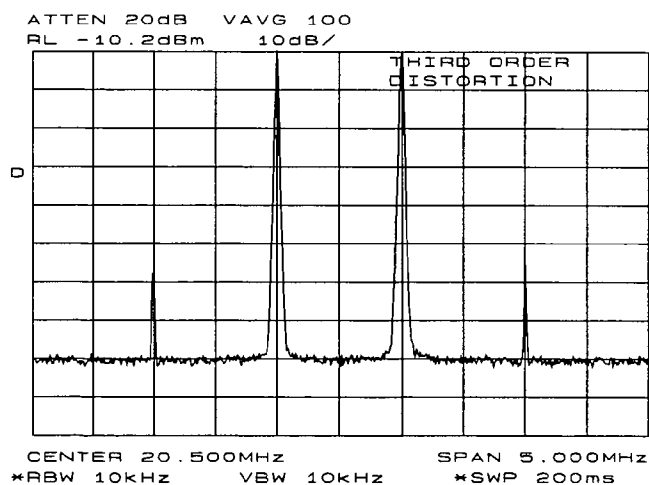

Figure 3-11. Display with Title
- You may want to store the measurement information for future use. The save and recall functions allow you to store data for later viewing. The screen title function allows you to create a title on the screen and a label for the recall menu. To create a title, press **DISPLAY** and then **SCREEN TITLE**. Next, use the softkeys from the screen-title menu and the knob (to choose the letters) to create a title. The title appears in the upper-right corner of the graticule and can be up to two rows of 16 characters each (see Figure 3-11). Press the softkey **TITLE DONE** when the title is complete.